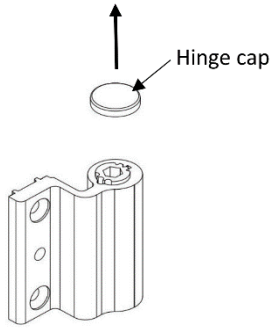
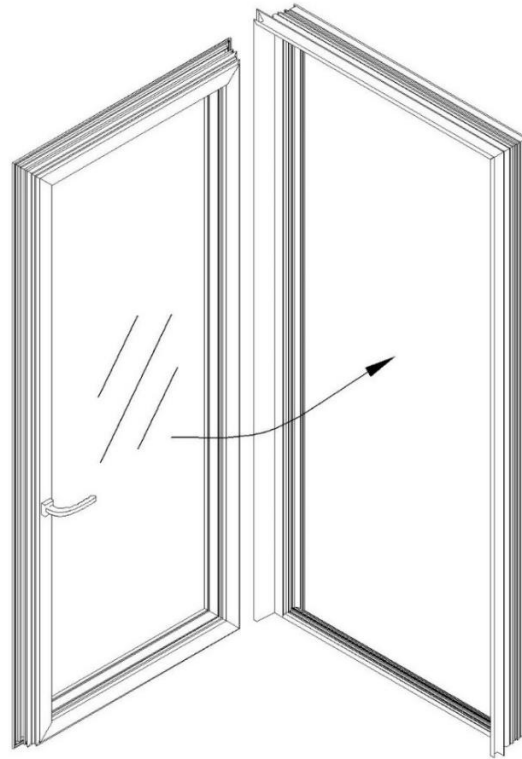

Figure 6a
Figure 6b
- Remove hinge cap prior to sash installation (shown in figure 6a). Do not lose hinge caps as they will be needed to lock hinge adjustments later. After removing hinge caps install the sash into the door frame (shown in figure 6b).